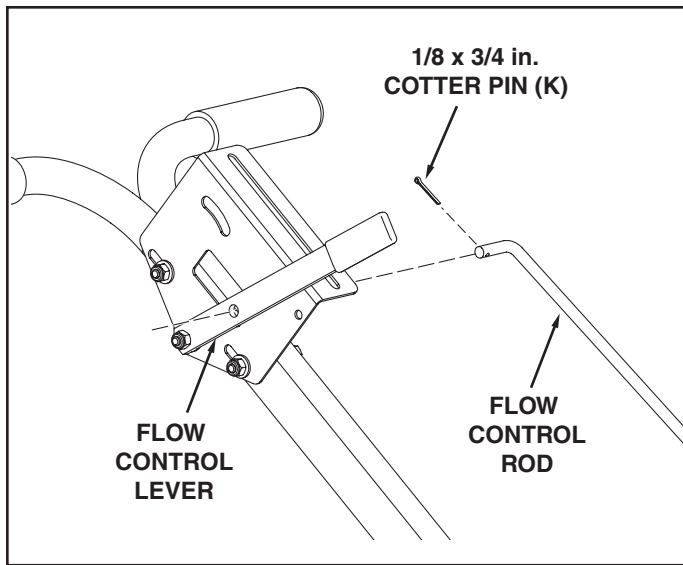

FIGURE 8
12. Insert the end of the flow control rod through the slot in the flow control mounting bracket and through the hole in the flow control lever. Secure with a 1/8 in. x 3/4 in. cotter pin. See figure 8.